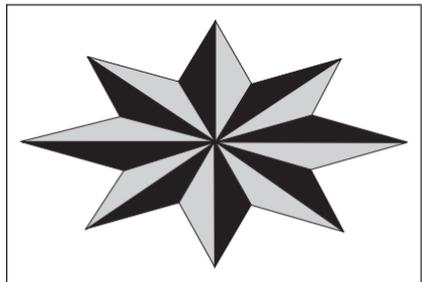

Fig. 6
6. Cut out sections for which the second color is to be substituted. Remove these pieces and place the long side against a straightedge on top of the color to be inserted into the star. Use the piece as a template and cut along the two short sides. Remove the piece and cut along the straightedge to form the third side. Insert the sections into the star and tape the pieces together. Position the star on the third color and tape it down. Score around the entire star and set it aside. Cut along the scored lines and replace with the two-colored star (Fig. 6).